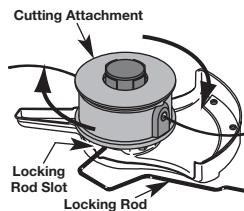

Fig. 10
- While holding the locking rod, remove the cutting attachment by turning it clockwise off of the output shaft (Fig. 10). Store the cutting attachment for future use.